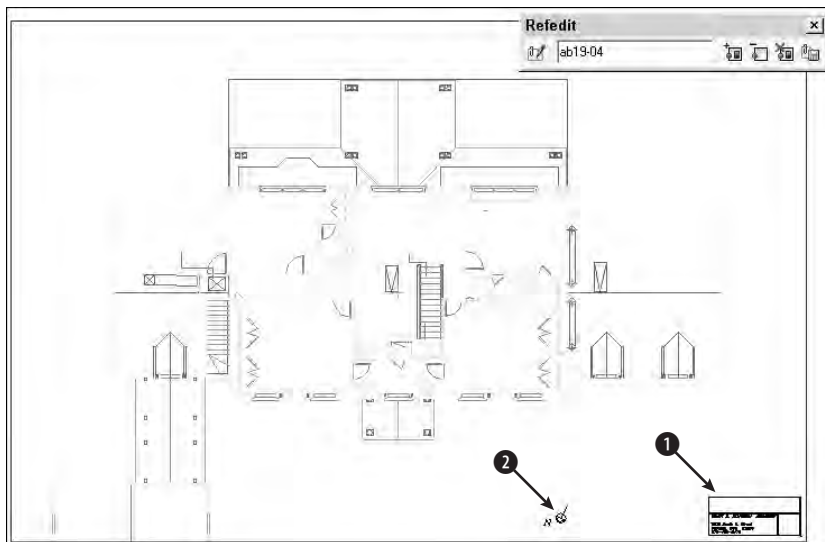

Figure 19-7: The title block is an xref in the drawing of the floor plan.
4. Double-click the title block. AutoCAD opens the Reference Edit dialog box. Choose `ab19-04.dwg`. It is displayed in the preview box. Click **OK**. AutoCAD opens the Refedit toolbar. You can now edit the xref. Your screen should look like Figure 19-7.
6. Choose **Draw** ⇨ **Text** ⇨ **Single Line Text**. At the Specify start point of text or [Justify/Style]: prompt, pick ❶ in Figure 19-7. At the Specify height <0'-0 3/16">: prompt, type **10** ↵. Press Enter again for the rotation angle.
9. Select the letter N and arrow symbol at ❷ in Figure 19-7. To transfer these objects from the xref to the floor plan drawing, choose **Remove (transfer)** objects from working set from the **Refedit** toolbar.